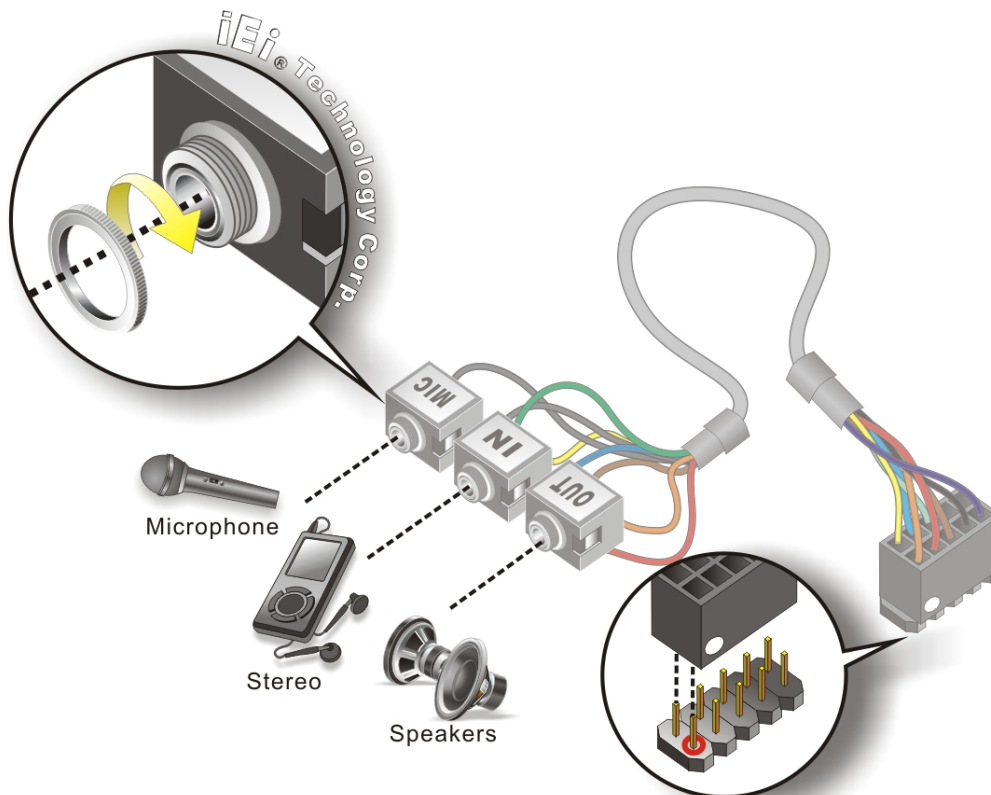

Figure 4-11: Audio Kit Cable Connection
- Step 2:** **Align pin 1.** Align pin 1 on the on-board connector with pin 1 on the audio kit connector. Pin 1 on the audio kit connector is indicated with a white dot. See Figure 4-11.